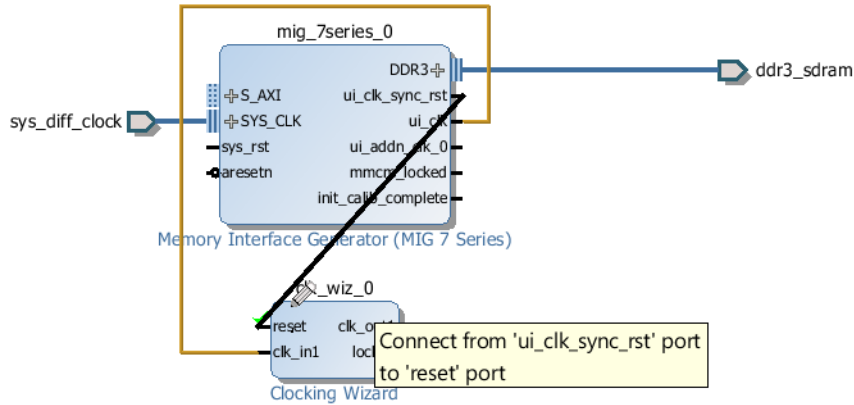

Figure 5-11: Connect ui_clk_sync_rst to the Reset Port
5. For the UltraScale Memory IP, connect the `c0_ddr4_ui_clk_sync_rst` pin to the Clocking wizard, shown in Figure 5-11.